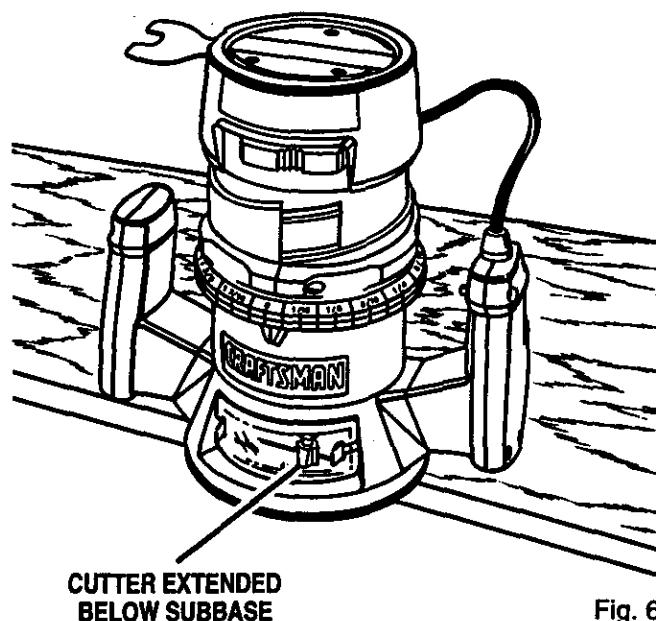

Fig. 6
- Position your router so that the cutter can extend below the subbase for desired depth setting. *See Figure 6.*